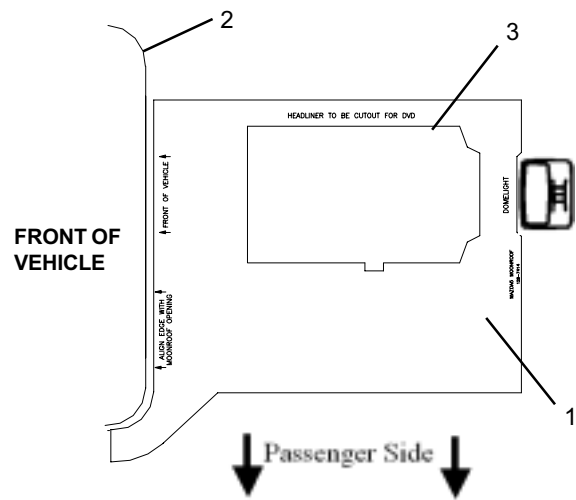

FIGURE 24
- 1.) ALIGN THE TEMPLATE (1) BETWEEN THE MOONROOF OPENING (2) AND THE DOME LIGHT (SEE FIGURE 24) AND TAPE IN PLACE
- 2.) USING A MARKER, CAREFULLY TRACE THE DVD CUTOUT AREA (3) ON THE HEADLINER. REMOVE THE TEMPLATE.